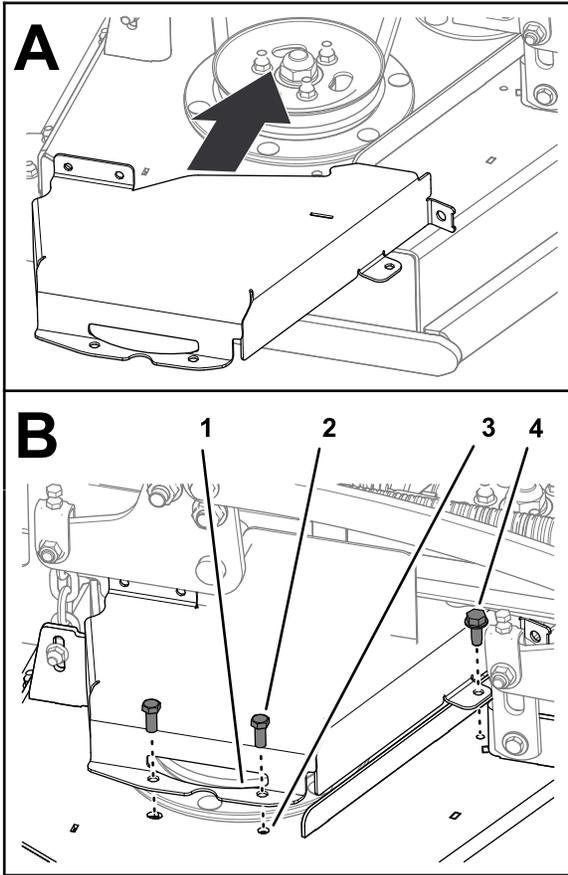

Figure 40
1. Assemble the right belt cover to the deck (Figure 40) with the 2 bolts that you removed in Removing the Left Belt Cover (page 28).